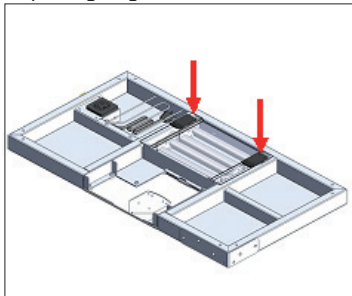

Fig. 20
- Fold the table; insert the pinning sheets (Fig 20) into the quick fasteners of the tool box (Fig 21). For transporting ( Fig22).